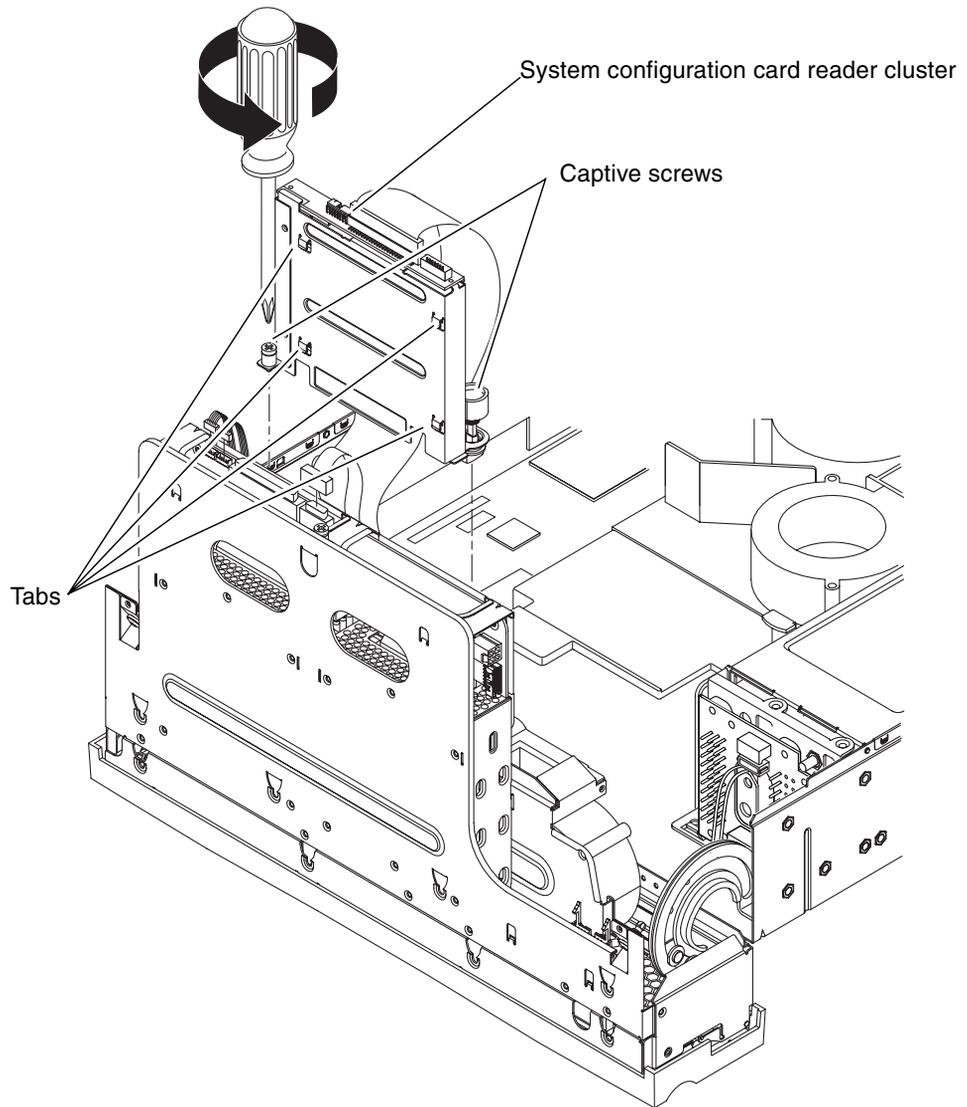

FIGURE 4-6 Removing the System Configuration Card Reader Cluster
9. Unplug the cables in the sequence below (FIGURE 4-5 and FIGURE 4-6):
- 1. Place the system configuration card reader cluster in position in the rotating service module (FIGURE 4-6).**
- 2. Using a No. 2 Phillips screwdriver, tighten the two captive screws to secure the cluster to the rotating service module (FIGURE 4-6).**